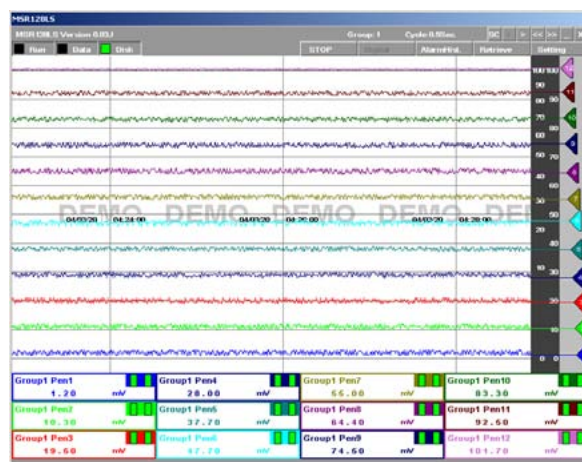

Figure 4.1.2c: Horizontal graph (←).
- Horizontal (←): Data stream from the right to the left (Figure 4.1.2c)